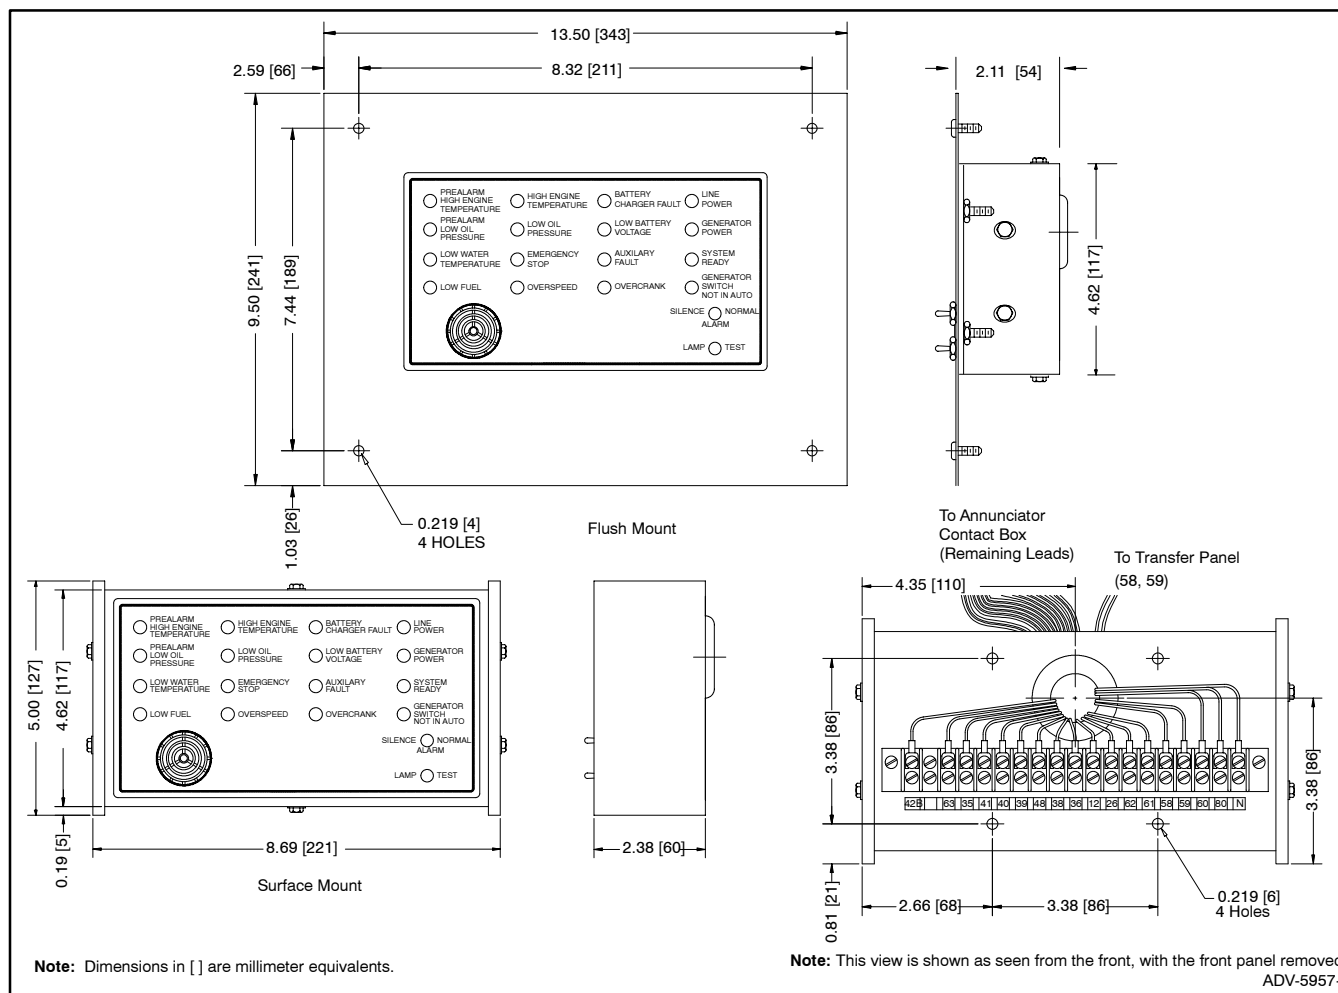

Figure 2 Component Dimensions
- 3.1 Select a visible location for mounting the remote annunciator panel up to 305 m (1000 ft.) from the controller. Install the remote annunciator panel, either surface- or flush-mounted, in a location easily observable by operating personnel at their work stations. See Figure 2 for remote annunciator dimensions and mounting hole dimensions.
- 3.2.4 Mount the remote annunciator back panel to the wall or to the electrical box in the wall. See Figure 2 for the mounting hole dimensions. Protect the remote annunciator from dust and debris when drilling the holes.